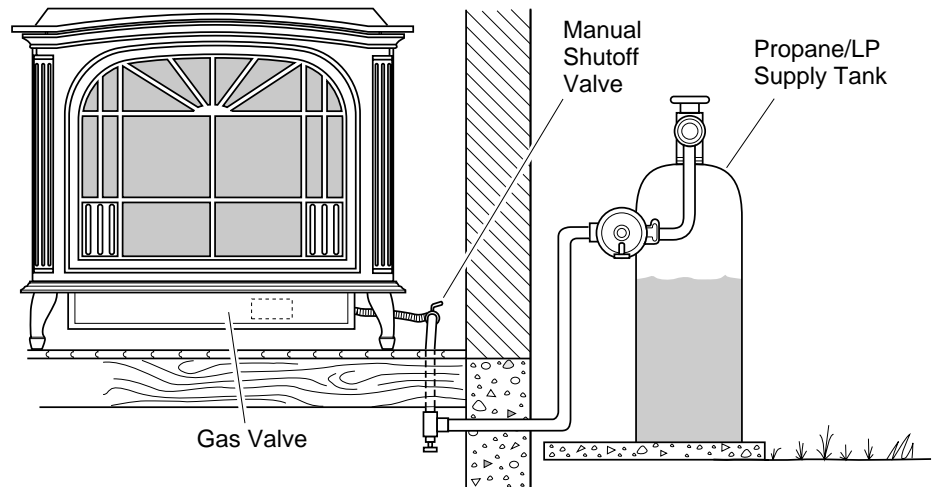
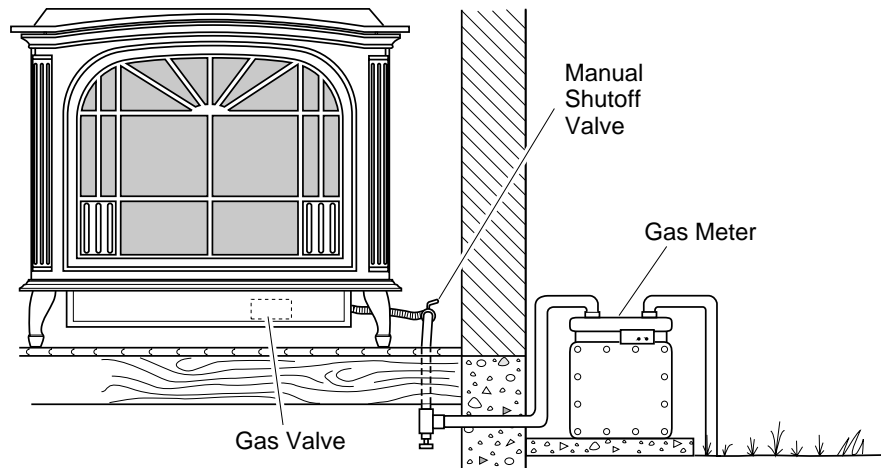

Figure 32 - Checking Gas Joints for Propane/LP Gas Freestanding Fireplace
Figure 33 - Checking Gas Joints for Natural Gas Freestanding Fireplace
3. Check all joints from propane/LP supply tank or gas meter to manual shutoff valve (see Figure 32 for propane/LP or Figure 33 for natural). Apply commercial leak test solution to all gas joints. Bubbles forming show a leak. Correct all leaks at once.
4. Check all joints from manual shutoff valve to thermostat gas valve (see Figure 32 for propane/LP or Figure 33 for natural). Apply commercial leak test solution to all gas joints. Bubbles forming show a leak. Correct all leaks at once.